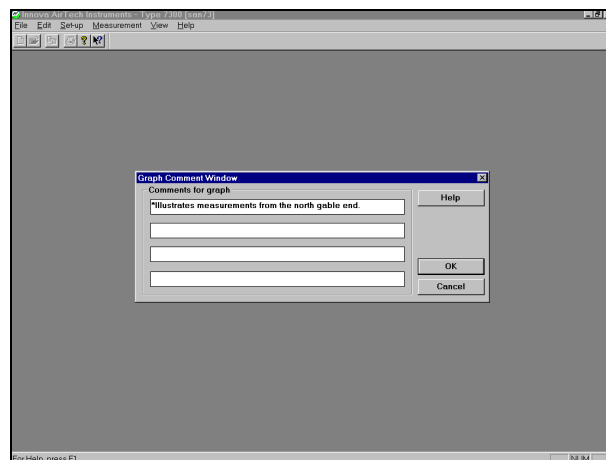

Fig 5.18 The Comments dialogue
1. Pull down the **View** menu. Click on **Comments**. The Comments dialogue will be displayed, Fig.5.18.